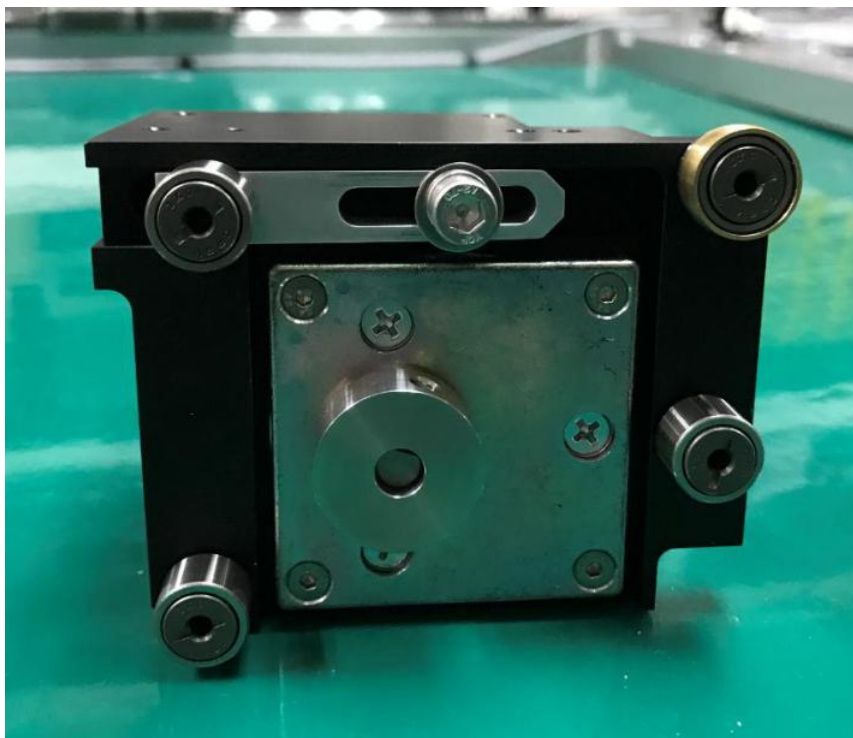

Figure 13 Adjustable Rail Motor Pulley (Full Assembly)
4. Assemble Adjustable Rail Motor Pulley (Figure 13) into Adjustable Rail as shown from Figure 13 to 15